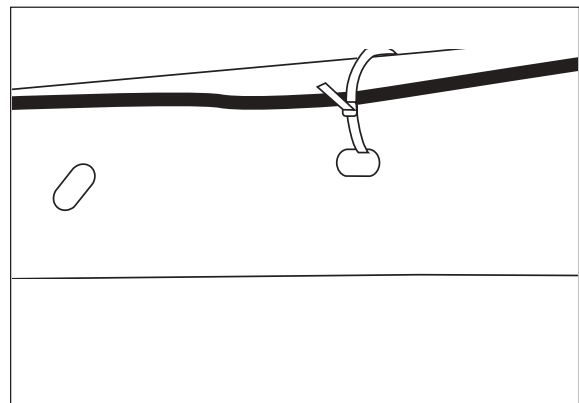
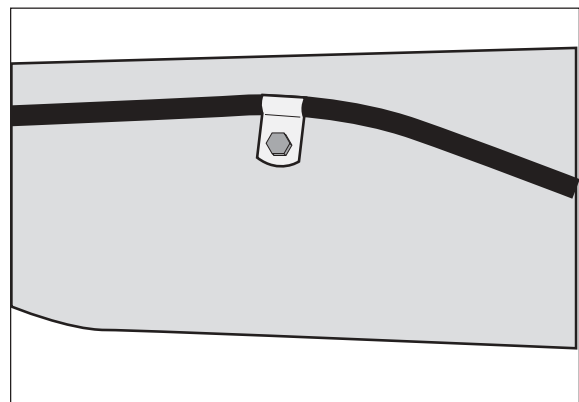

Figure 13
Figure 14
7. Use the plastic tie straps (BB) to secure the air line to fixed, non-moving points along the chassis (Figure 13). Be sure that the tie straps are tight, but do not pinch the air line. Where there are no holes to secure the straps to, use the air line clip (HH) and self tapper (II) to secure the air line to the frame (Figure 14). Leave at least 2" of slack to allow for any movement that might pull on the air line.